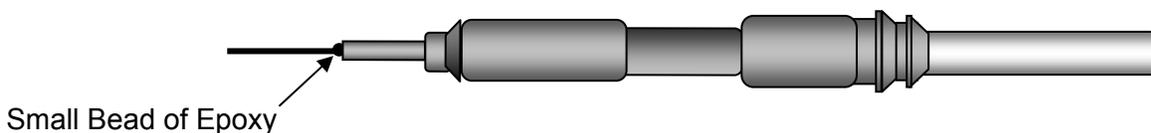

Figure 7-36 – Bead of Epoxy
Step 19 - Verify that there is a small amount of epoxy around the fiber where it protrudes from the ferrule. If it is found that there is no small bead of epoxy on the terminus tip, carefully add a small amount of epoxy around the fiber. See Figure 7-36.